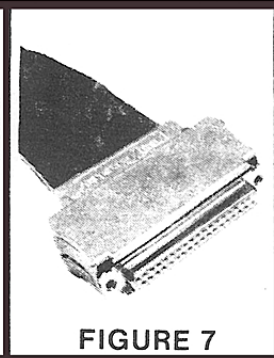

FIGURE 7
7. Assemble the top half of the backshell as illustrated, to entrap the connector, grounding springs and the cable. See Figure 7.